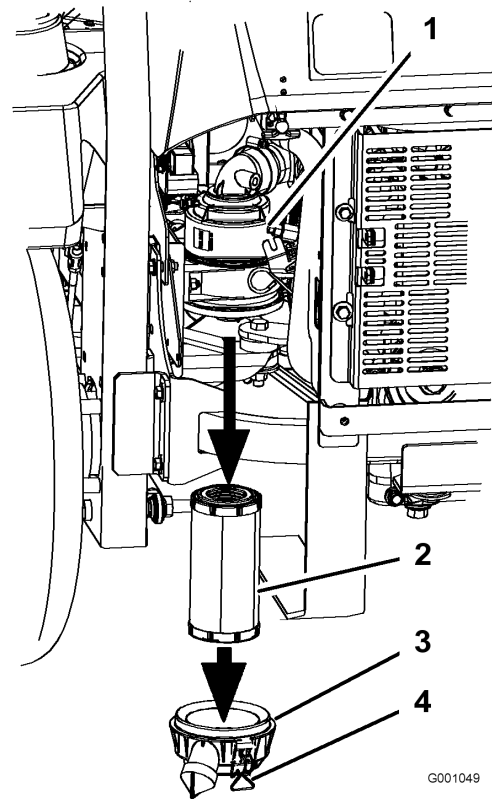

Figure 31
3. Release the latches on the air cleaner and pull the air cleaner cover off of the air cleaner body (Figure 31).
5. Gently slide the filter out of the air cleaner body (Figure 31). Avoid knocking the filter into the side of the body.